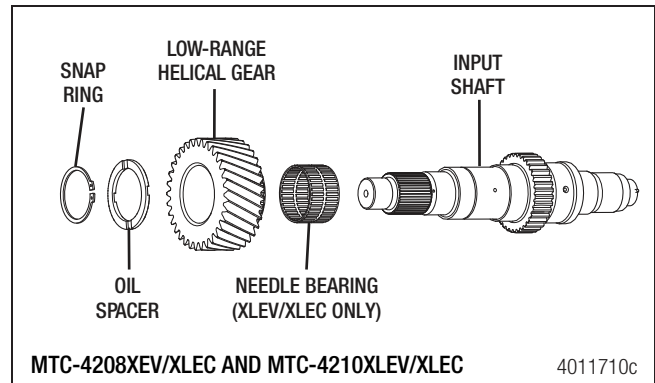

Figure 7.10
4. **MTC-4208XLEV/XLEC and MTC-4210XLEV/XLEC transfer cases only:** Install the needle bearing on the input shaft. Figure 7.10.
5. Place the low-range helical gear over the input shaft with the spline side of the gear down. For MTC-4208XLEV/XLEC and MTC-4210XLEV/XLEC, install the oil spacer. The oil spacer has two oil channels cut into it. The oil channels can face forward or aft when installed. Install the spiral snap ring to secure the helical gear. The gear is a slip fit. Figure 7.10.